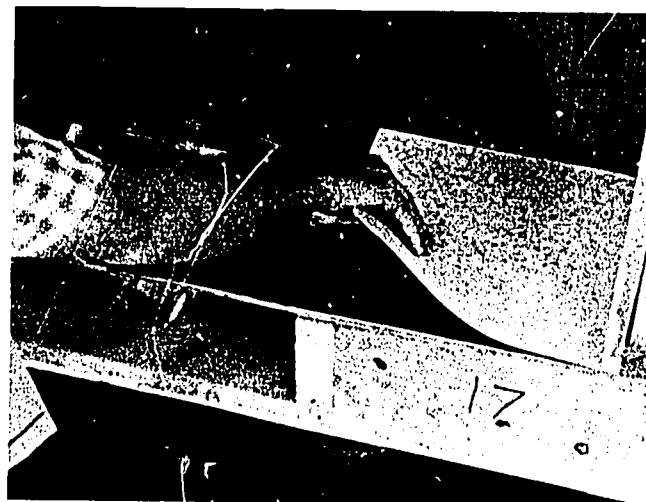

Fig. 63-5. Placing Tile
- 9. Place the tiles in position and check the fit. See Fig. 63-5.